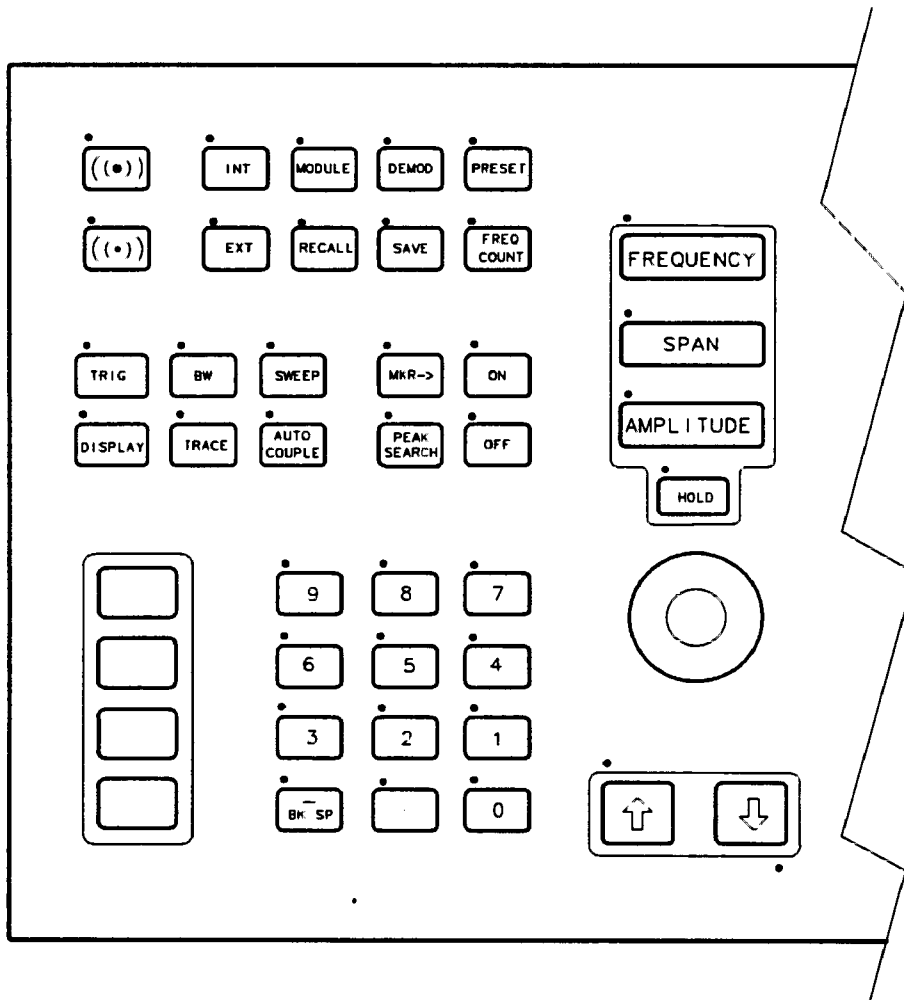

Figure 3-7. Key Positions As Viewed from Inside
1. Check that all front-panel keys are correctly placed in the front-frame assembly. Figure 3-7 illustrates the positions of all keys as viewed from the backside of the front panel. Make sure the indented orientation mark located on the back of each key is next to the raised marks located in the front-frame casting next to each key.